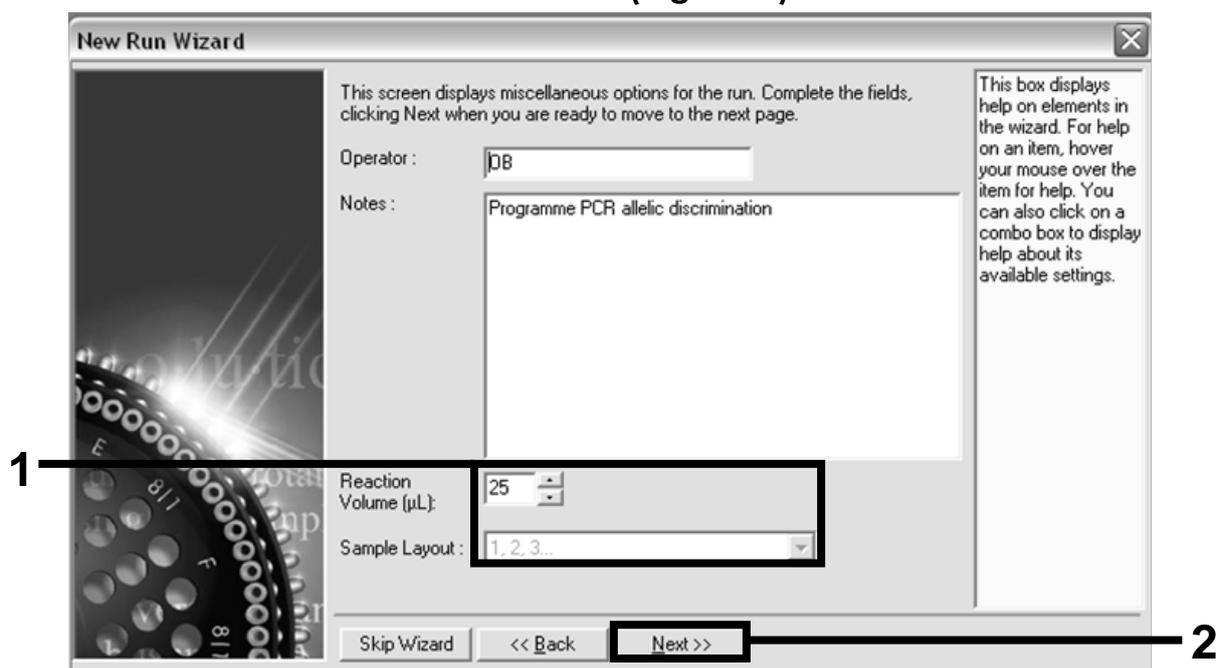

Figure 4. Setting the general assay parameters.
12. Open the “New Run Wizard” dialog box. Select 25 for the PCR reaction volume and click “Next” (Figure 4).